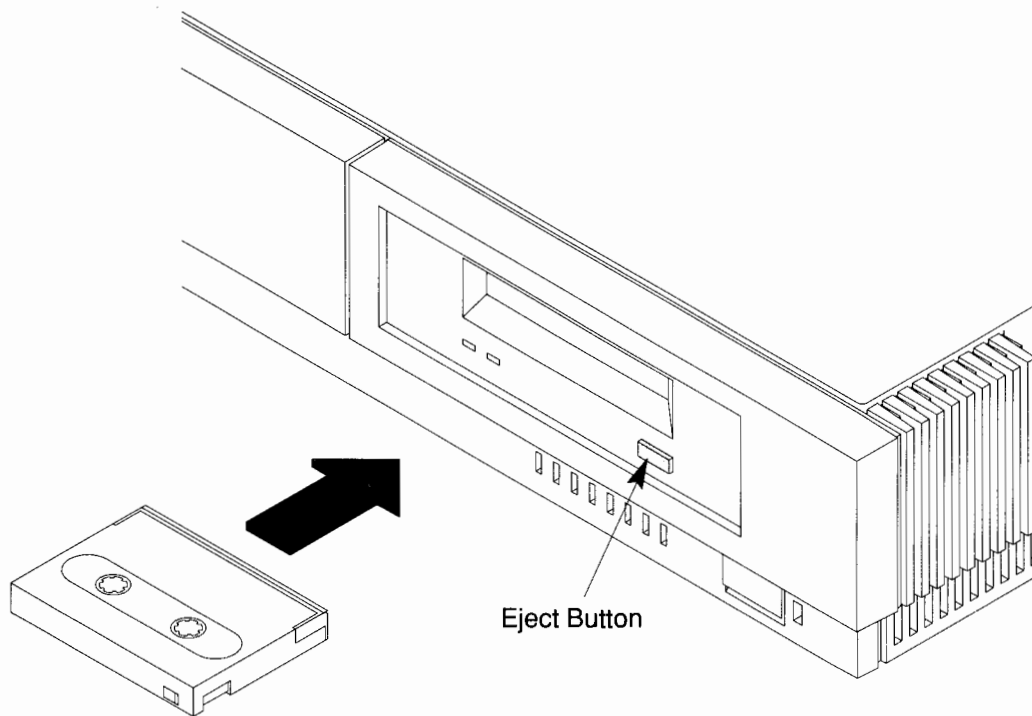

Figure 5-2. Loading a Data Cassette
1. Insert the data cassette into the drive, as shown in Figure 5-2.
- 3.** To remove the data cassette, press and release the eject button on the front of the drive, as shown in Figure 5-2. The LEDs on the drive flash on and off. Ten to twenty seconds later, the data cassette slides partway out of the drive.